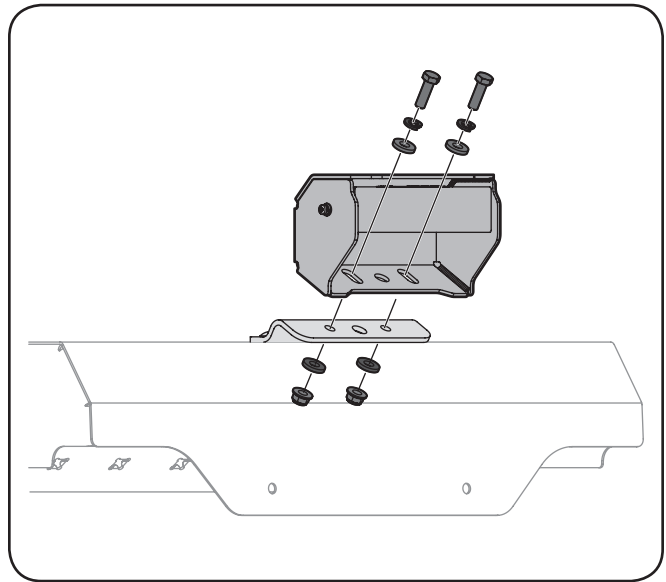

Figure 1-9
11. Install the headlight bracket (#1) onto the headlight mounting bracket (#2) on fabricated floorboards as shown in Figure 1-9.